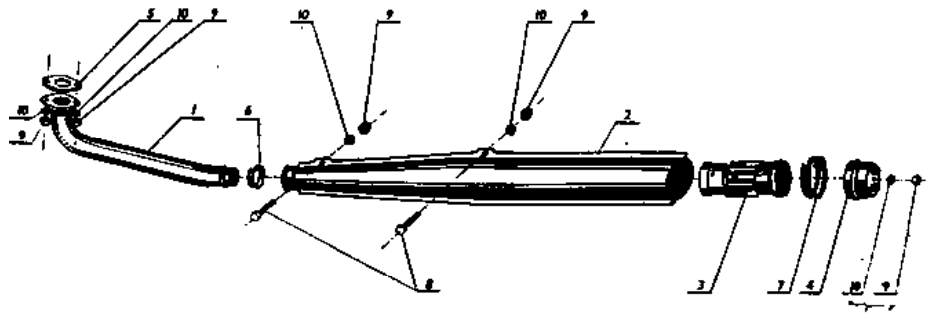

Fig. 29
36. Dismantling the exhaust silencer and carbon deposit removal (fig. 29)